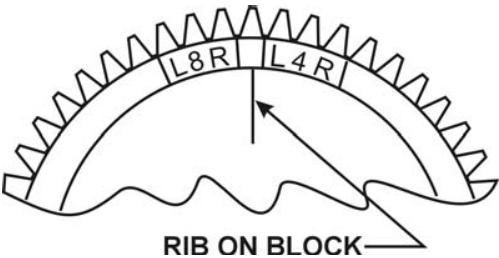

Figure 5-2. Timing Marks – 4 Cylinder -1200 Series
- (1) Remove a spark plug from No. 1 cylinder and place a thumb over the spark plug hole. Rotate the crankshaft in direction of normal rotation until the compression stroke is reached, this is indicated by a positive pressure inside the cylinder tending to push the thumb off the spark plug hole. Continue rotating the crankshaft until the advance timing mark on the front face of the starter ring gear is in alignment with the small hole located at the two o'clock position on the front face of the starter housing. (Ring gear may be marked at 20° and 25°. Consult specifications for correct timing mark of your installation.) At this point, the engine is ready for assembly of the magnetos.
- (2) *Single Magneto* – Remove the inspection plugs from both magnetos and turn the drive shaft in direction of normal rotation until (-20 and -200 series) the first painted chamfered tooth on the distributor gear is aligned in the center of the inspection window; (-1200 series) the applicable timing mark on the distributor gear is approximately aligned with the mark on the distributor block. See Figure 5-2. Being sure the gear does not move from this position, install gaskets and magnetos on the engine. Note that an adapter is used with impulse coupling magneto. Secure with (clamps on -1200 series) washers and nuts; tighten only finger tight.
- (3) Using a battery powered timing light, attach the positive lead to a suitable terminal connected to the switch terminal of the magneto and the negative lead to any unpainted portion of the engine. Rotate the magneto in its mounting flange to a point where the light comes on, then slowly turn it in the opposite direction until the light goes out. Bring the magneto back slowly until the light just comes on. Repeat this with the second magneto.
- (4) Back off the crankshaft a few degrees, the timing lights should go out. Bring the crankshaft slowly back in direction of normal rotation until the timing mark and the hole in the starter housing are in alignment. At this point, both lights should go on simultaneously. Tighten nuts to specified torque.
- (5) *Dual Magnetos* – Remove the timing window plug from the most convenient side of the housing and the plug from the rotor viewing location in the center of the housing.
- (6) Turn the rotating magnet drive shaft in direction of normal rotation until the painted tooth of the distributor gear is center in the timing hole. Observe that at this time the built in pointer just ahead of the rotor viewing window aligns with either the L or R (depending on rotation).